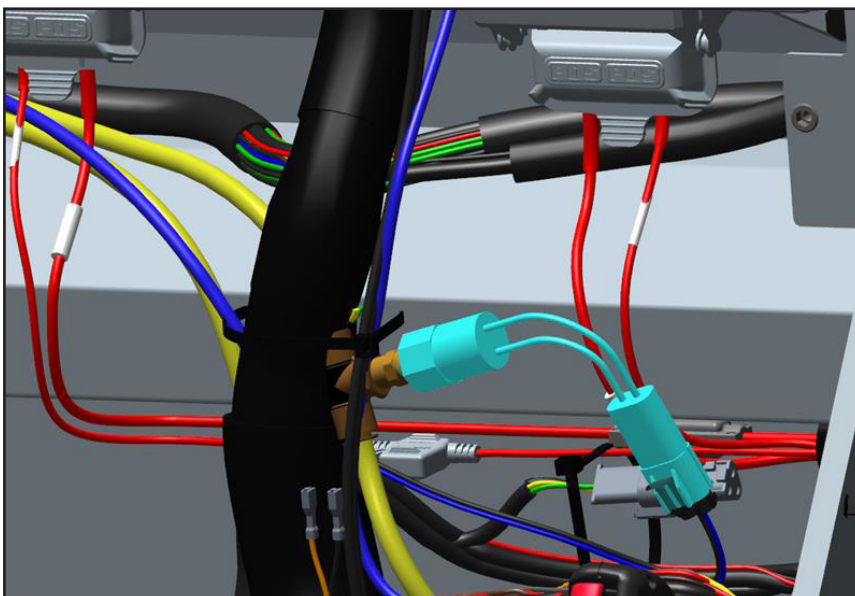

Figure 3 - Pressure switch location
- Access the park brake valve assembly. See Figure 3.